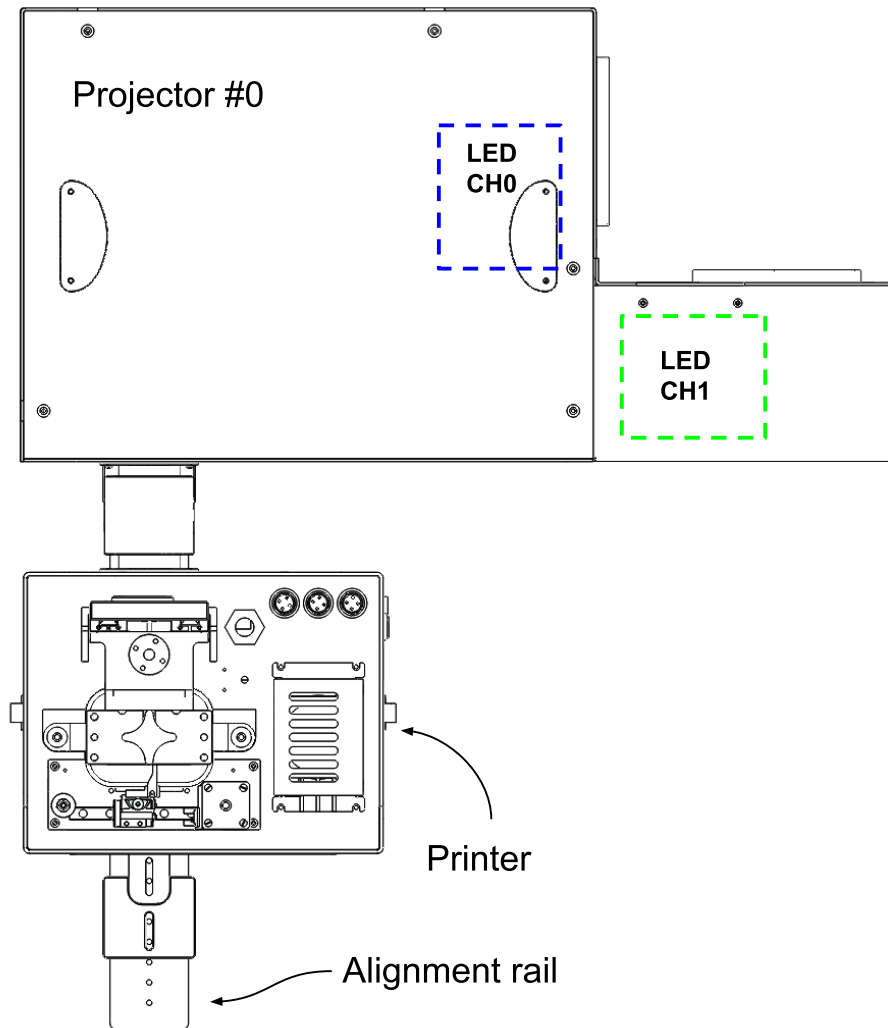

Fig. 1. Diagram of fully assembled 2CH printer
- After the system is fully assembled and aligned, the system should look like Fig. 1. All details will be followed.